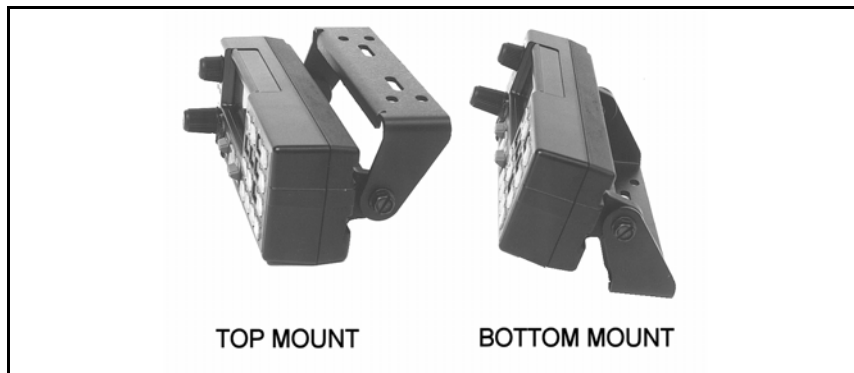
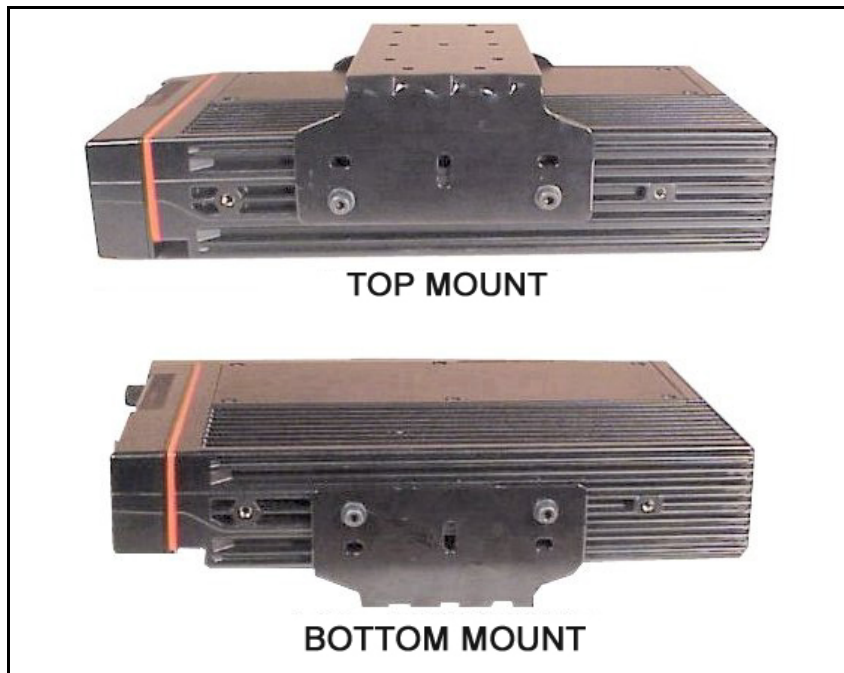

Figure 10-7: Control Unit Mounting Bracket Installation
Figure 10-14: Mounting Bracket Installation (110W VHF Shown)
1. Using the bracket as a template, mark and drill the mounting holes. Be sure to leave enough room at the rear of the control unit for the cable connector and to allow the unit to swivel. Refer to Figure 10-7 for control unit mounting bracket installation.
Typically, the bracket shown in Figure 10-14 is used for Front Mount applications. The bracket can be mounted so that it is either above or below the radio for the user's convenience. The bracket pictured in Figure 10-7 can also be used for Remote Mount applications. The following instructions are for a Front Mount installation using the bracket shown in Figure 10-14.